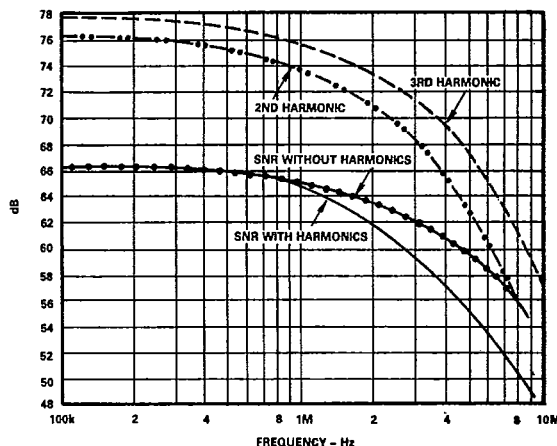

Figure 3. CAV-1220 SNR and Harmonics
- ⁴Rms signal to rms noise ratio with full-scale 540kHz analog input (see Figure 3).
- ¹²Adjustable ± 15mV without performance degradation (see text and Figure 3).
Figure 3 shows typical performance on some of the dynamic characteristics which play an important role in the performance of systems using the CAV-1220 A/D converter.